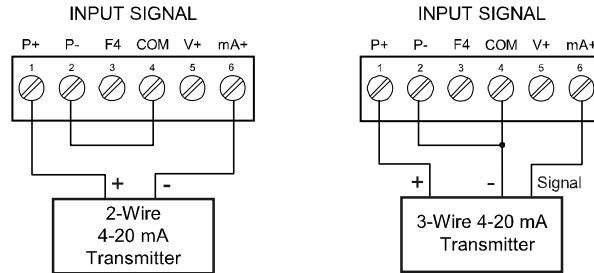

Figure 7: Transmitters Powered by Internal Supply
Serial communications connection is made to an RJ45 connector labeled M-LINK on Figure 7. Use the PDA1232 for RS-232 interfacing, or the PDA1485 for RS-485 interfacing. The same port is used for interfacing with all expansion modules (e.g. external relays, digital I/O).
Relay connections are made to two six-terminal connectors labeled RELAY1 – RELAY4 on Figure 7. Each relay's C terminal is common only to the normally open (NO) and normally closed (NC) contacts of the corresponding relay. The relays' C terminals should not be confused with the COM (common) terminal of the INPUT SIGNAL connector.